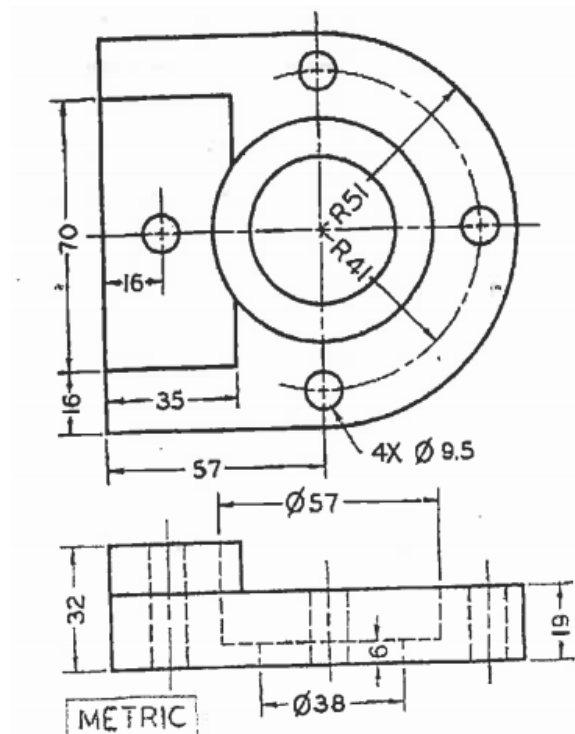

Fig Qn 3 (a)
- a) For the part shown in Fig. Qn 3 (a), assume the last operation is to mill out the 57 mm counter bore.